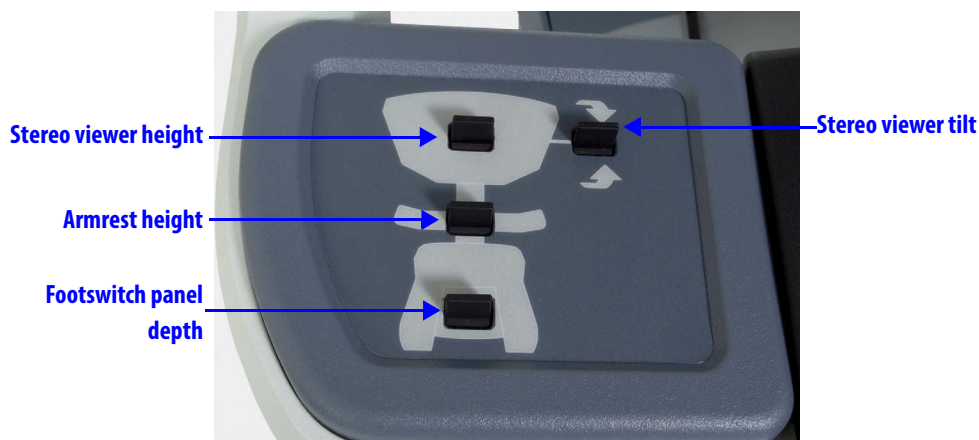

Figure 10.12 Left-side pod adjustments
2. Adjust the armrest height so your forearms rest comfortably on the armrest with your shoulders relaxed (Figure 10.12).
3. Adjust the stereo viewer height to your preference (Figure 10.12).
4. Adjust the stereo viewer tilt according to your preference (Figure 10.12). Tilting up allows for a more comfortable neck angle. Tilting down allows for more alignment of your hands and the instruments in the stereo viewer.
5. Adjust the footswitch panel depth to your preference (Figure 10.12).